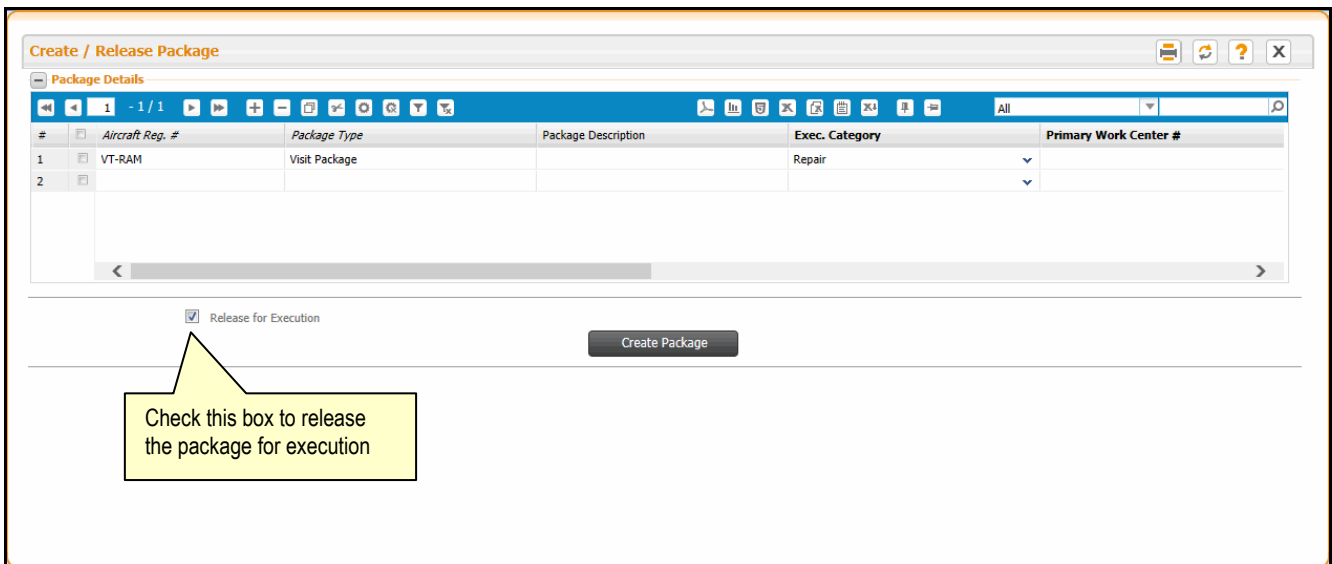

Figure 2.18 Creating package
4. Click the 'Release Package'  icon in the **Package Details** Gantt chart. The Create / Release Package window appears. See Figure 2.18.